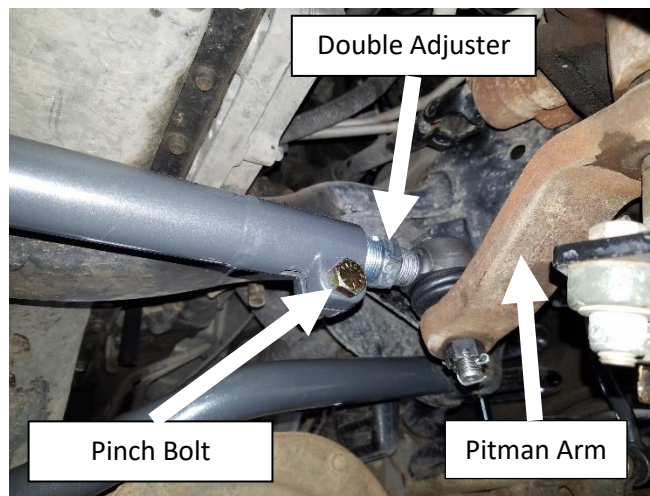

Figure 17. Pitman Arm Side of Synergy Drag Link Shown with Pinch Bolt Down
5. Synergy 8567-01 drag links are oriented with the pitman arm side pinch bolt up. All other drag links should have the pitman arm side pinch bolt oriented down. See **Figure 17**.